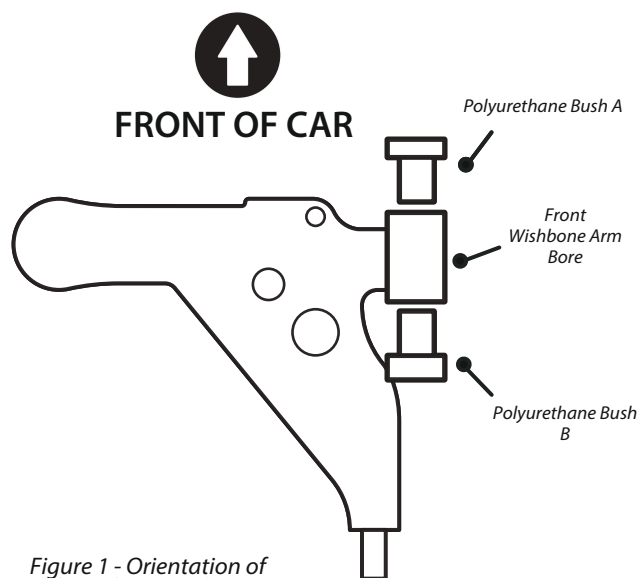

Figure 1 - Orientation of Polyurethane Bushes
2. Insert Polyurethane bushes A and B into the bore of the arm, taking note of the orientation shown in Figure 1. Polyurethane Bush A (smaller top hat) sits on the outside of the bore, so it is facing the front of the car.